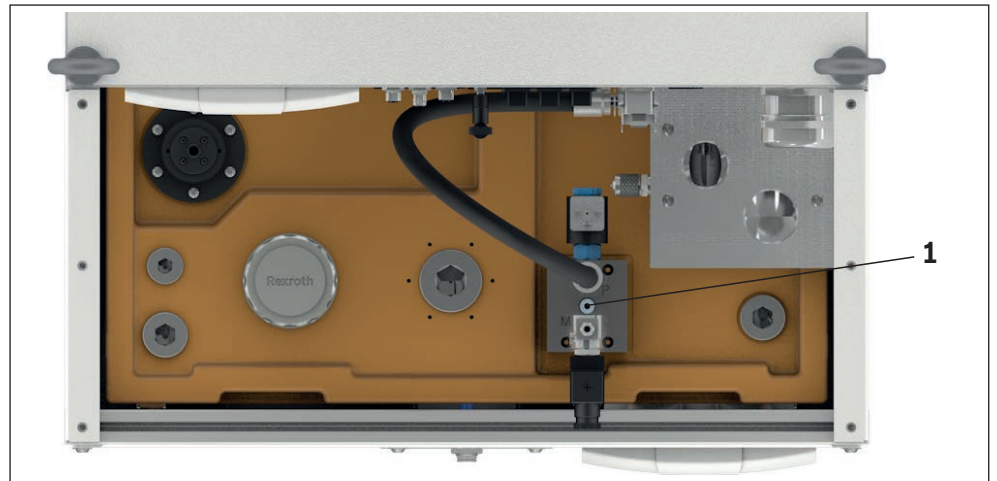

Fig. 16: Pneumatic connection
- Connect a pneumatic hose (d = 6 mm), see Fig. 16, pos. 1.